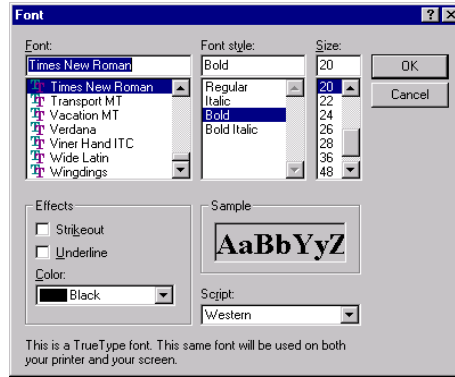

Figure 7.8
4. Choose a font or typeface for your text by pressing the **Font** button. A **Font Properties** window appears, as shown in Figure 7.8.